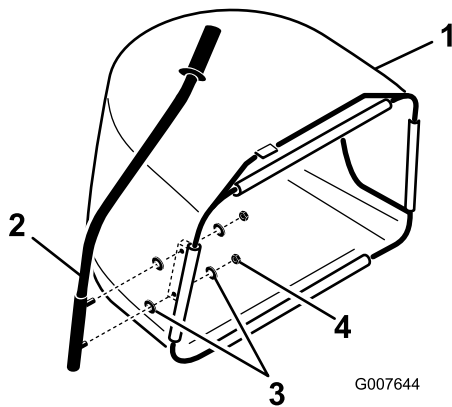

Figure 6
2. Secure the handle to the bag assembly with 4 washers (M9) and 2 locknuts (M8) (Figure 6).